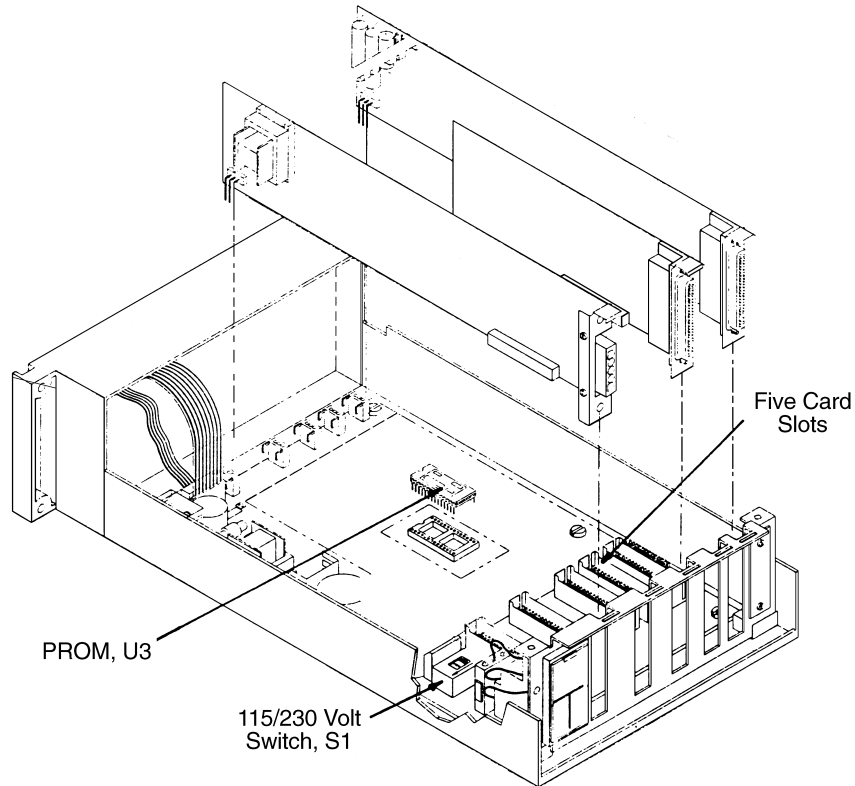

Figure 1-3 Installing the Option Boards
3. Install the optional PCBs into any or all of the five board slots (Figure 1-3).